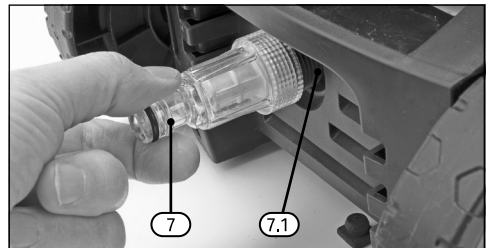

Fig. 11
6.6 Connecting the Water Supply (Fig.11)